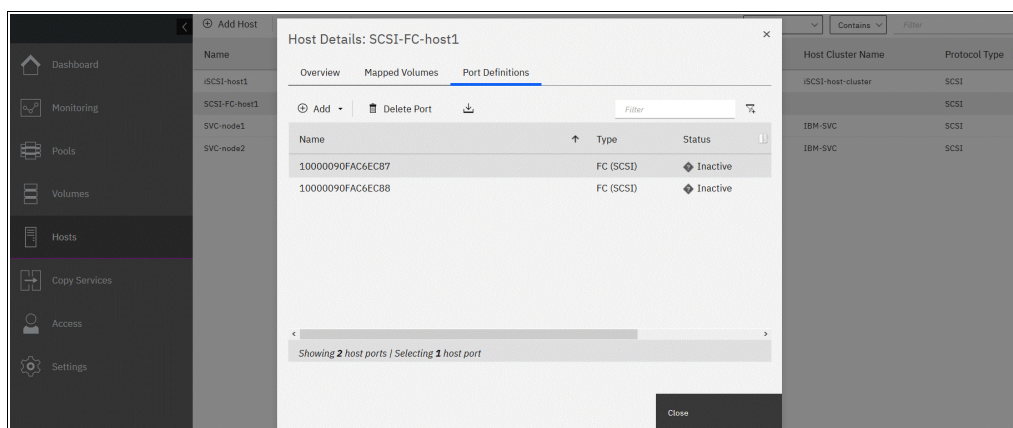

Figure 7-56 Listing port definitions
- The Port Definitions tab enables the user to view all the ports that belong to a specific host, add ports or remove any assigned ports (see Figure 7-56). This tab is also includes the NQN of the NVMe host.